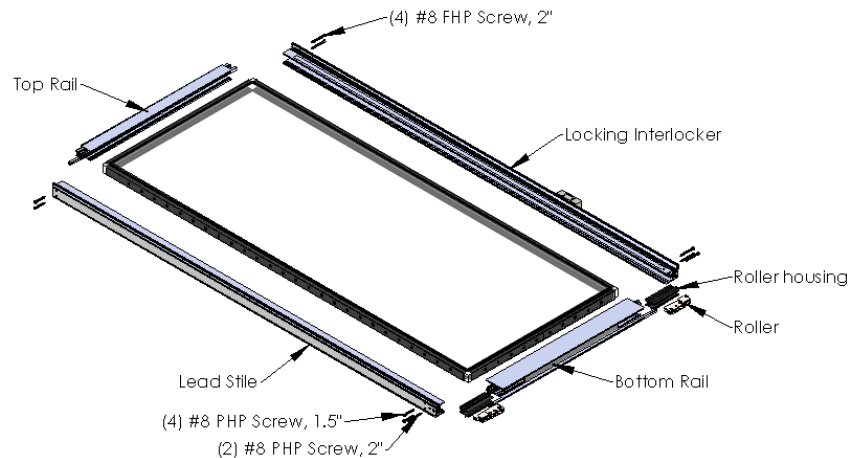

Figure 7:
7. Secure the stiles to the top and bottom rail with (4) #8 x 2” flat head screws for the interlocker and (4) #8 x 1-1/2” pan head screws for lead stile (Figures 7).